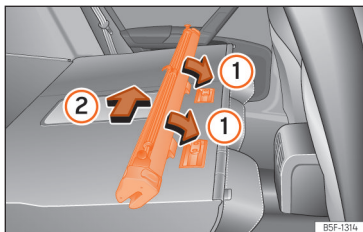

Fig. 185 Assembling the net partition in the rear seat backrests.
- Place the net casing in the rail slots in the direction of the arrows >>> Fig. 185 ①.
- Push the casing towards the left side of the vehicle in the direction of arrow >>> Fig. 185 ② and as far as it will go.
- Pull the net casing out approximately 5 cm in the opposite direction to the arrow >>> Fig. 185 ②.
- Remove the casing from the rails by pulling in the opposite direction to the arrows >>> Fig. 185 ①.